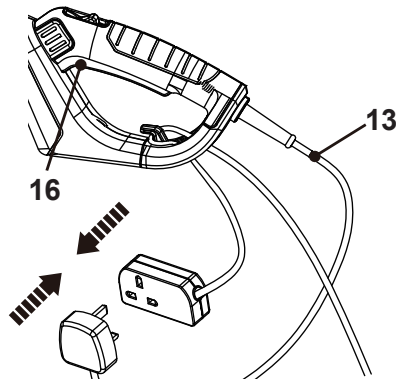

Fig.4
3. Connect the power cord (13) to the socket of the extension cord (Fig. 4).